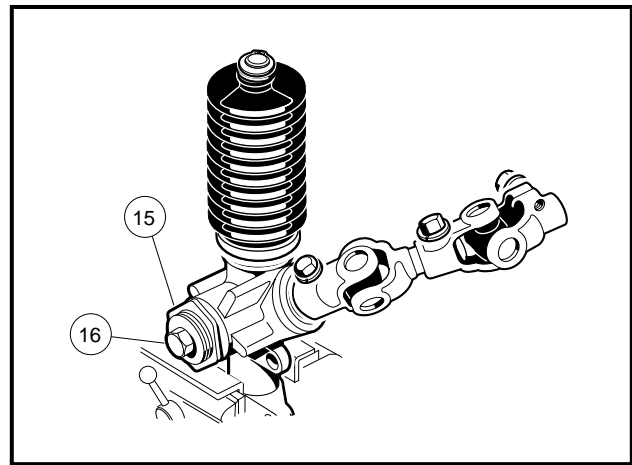

Figure 7-14 Rack and Pinion Adjustment
- 11.4. If measured resistance does not equal 7 to 15 in-lb, loosen the locknut (15) and tighten the screw (16) until it bottoms out, then back the screw off one quarter turn. Tighten the locknut to 28 ft-lb (38 N·m) **(Figure 7-14, Page 7-11)**.
- WHEN TIGHTENING THE LOCKNUT (15) MAKE SURE THE SCREW (16) DOES NOT CHANGE ADJUSTMENT **(FIGURE 7-14, PAGE 7-11)**.